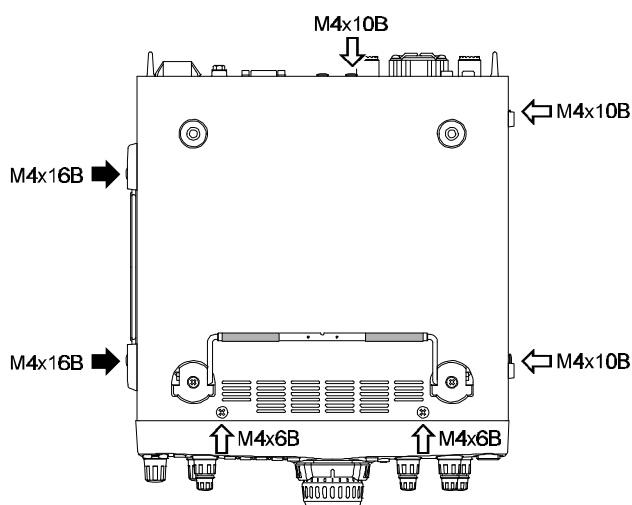

Figure 1
- ① Remove the carrying handle and bottom case of the transceiver (see Figure 1). Be sure to remove the screw affixed to the rear panel.